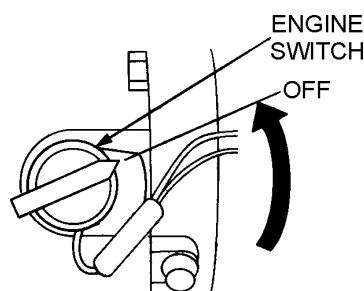

Figure 16. Engine ON/OFF Switch (OFF)
3. Place the fuel shut-off lever (See Figure 16) in the **OFF** position